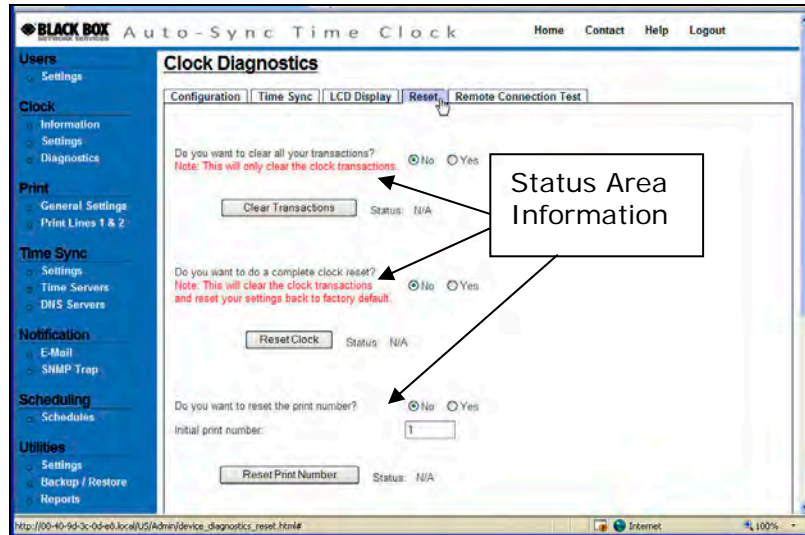

Figure 6-5. Clock Reset.
1. Click on the **Diagnostics** link under **Clock**, and the **Clock Diagnostics** screen will appear. Then click on the **Reset** tab and the Reset screen will appear (see *Figure 6-5*).